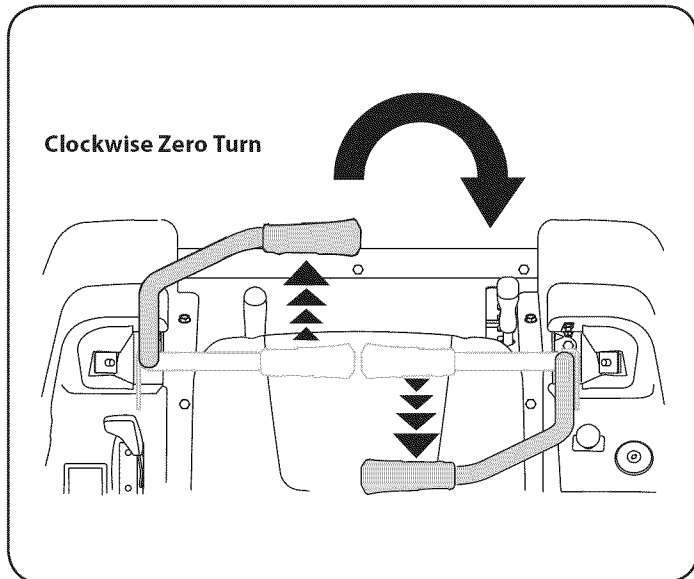

Figure 20
2. To turn clockwise, move the left control lever forward while simultaneously moving the right control lever rearward. See Figure 20.